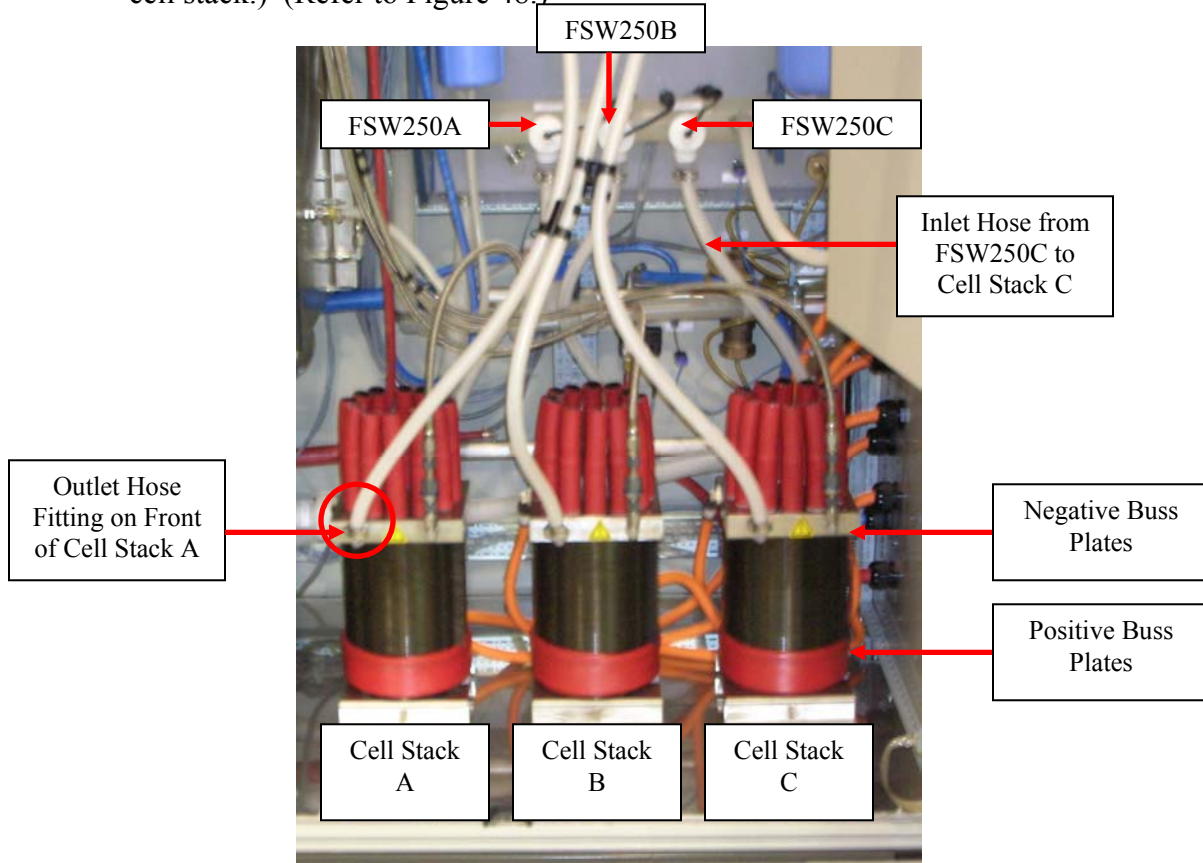

Figure 48 Cell Stack and Connection Locations
20. Using a multimeter set for DC measurements, check the voltage between the positive buss connection on the cell stack and ground (stainless steel manifold plate). (Refer to Figure 48.) It should read approximately 20 volts.
24. Disconnect the inlet hose on the stack from FSW250 A, B or C, depending on which cell stack needs to be replaced, using a flat-head screwdriver. (The inlet hose is located in the back of the cell stack.) (Refer to Figure 48.)
25. Disconnect the outlet hose from the cell stack. (The outlet is located in front of the cell stack.) (Refer to Figure 48.)